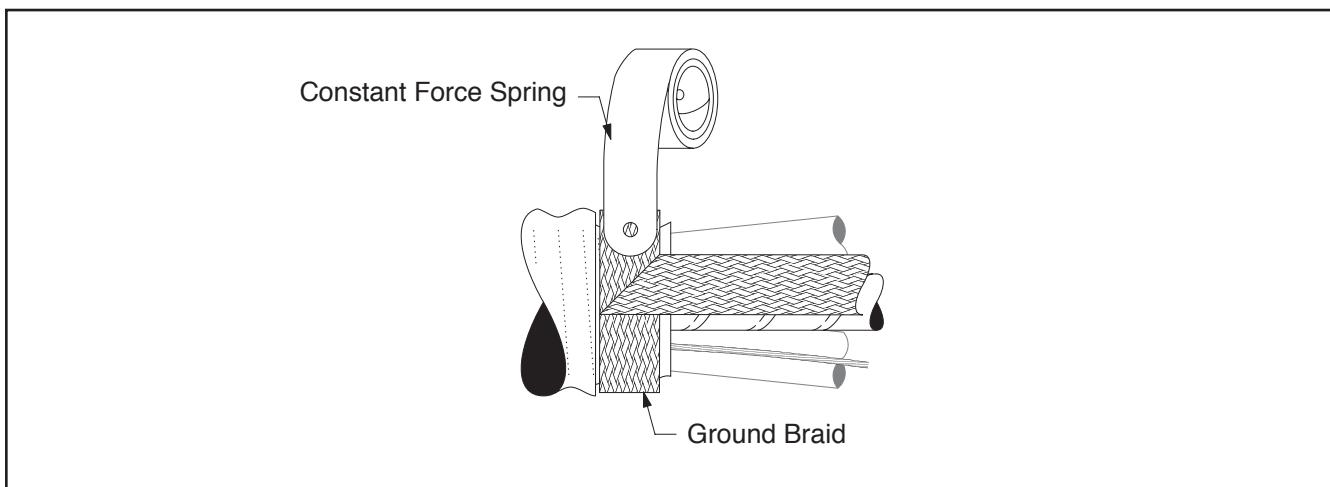

Figure 19
- Wrap an end of the Scotch® Electrical Grounding Braid 25 around the exposed armor on Cable X. Fold braid at a 90° angle, extending toward the splice opening. Secure end of braid with a large constant force spring (Figure 19).